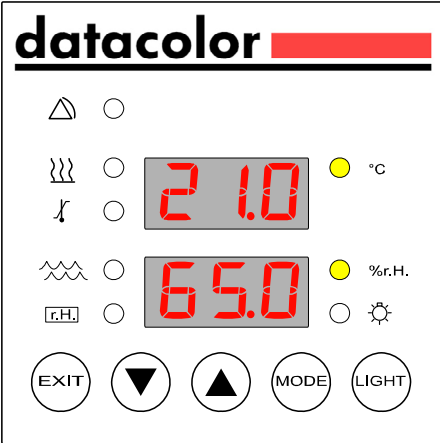

Figure 5: Basic display of the controller
After a few seconds, the upper display shows the current interior temperature of the CONDITIONER™ and the lower display shows the current interior humidity (see example in Figure 5).
To not confirm the changed value wait 30 seconds without pressing any button. The controller will then automatically move back to the basic display without accepting the changed value (see Figure 5).
- Press button  repeatedly to go back to the basic display (see Figure 5).
- Press button  to confirm the change of the operating mode and to go back to the basic display (Figure 5). Changing of operating parameters according to chap. 6 in not possible now.
- Press button  to confirm the change of the operating mode and to go back to the basic display (see Figure 5). Changing of operating parameters according to chap. 6 is temporarily possible: 30 seconds after the last keypad entry, the entry of operating parameters is locked again (operating mode "OP.L"). If you want to permanently unlock the entry, set parameter "PA.H" to 0 (Table 3 on page 30 or Table 4 on page 31).